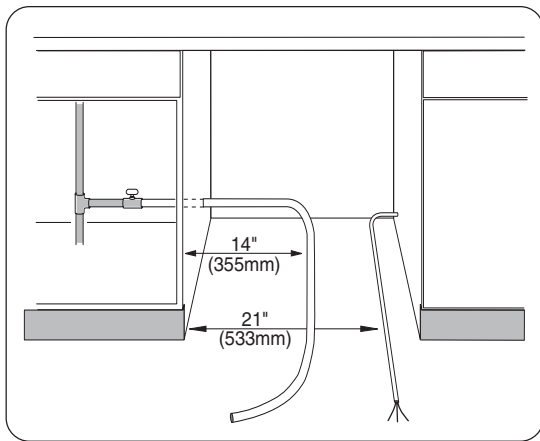

Figure 18
- 1 Straighten and position the hot water supply line and the electrical supply cable as shown in **Figure 18** so that they will align with their channels under the dishwasher base.